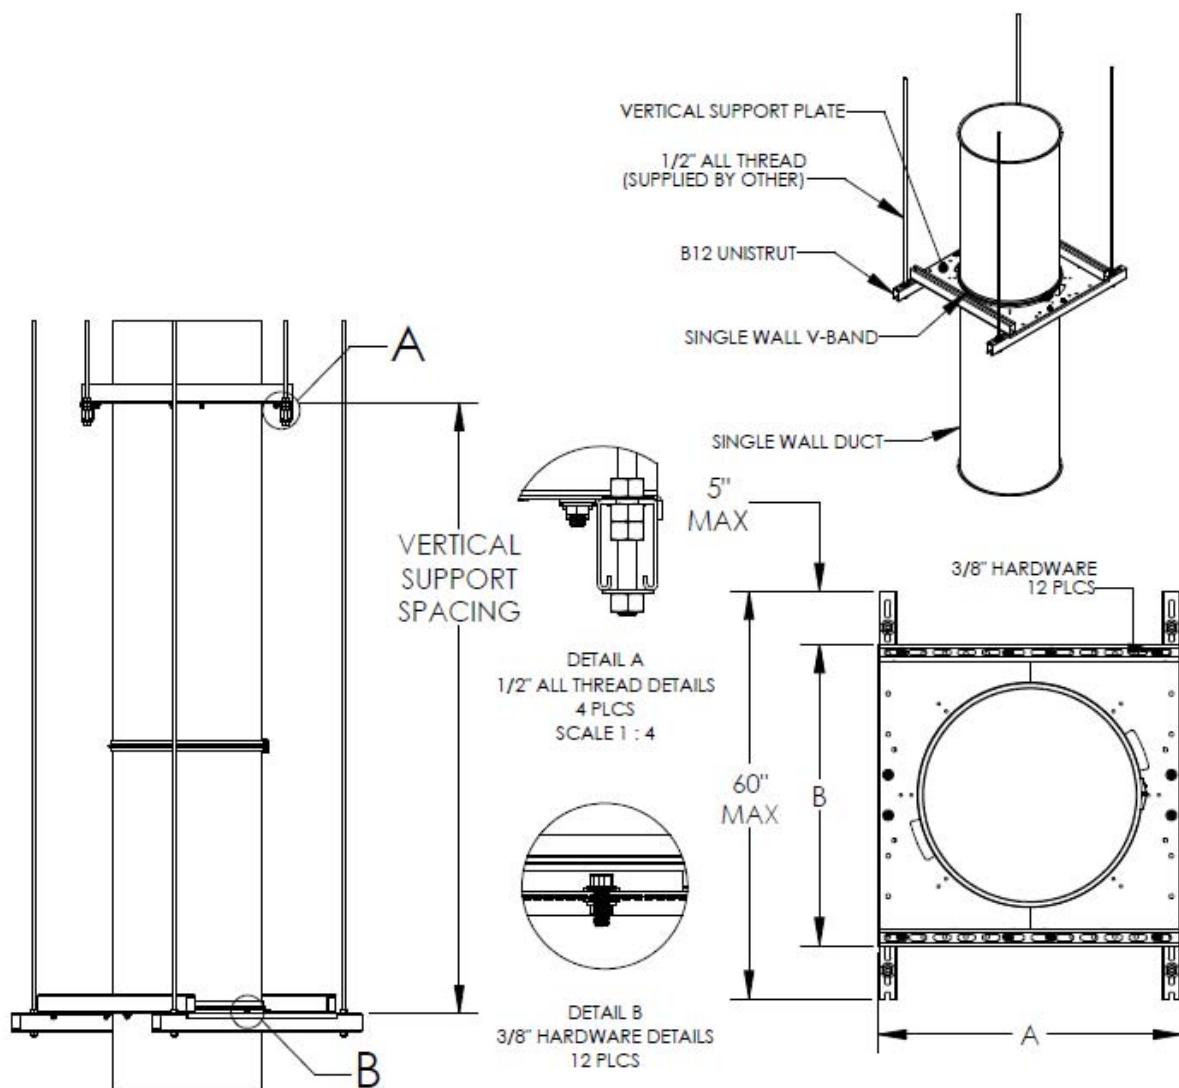

Figure 6. Ceiling Vertical Support Assembly
D. FLOOR/CEILING VERTICAL SUPPORT ASSEMBLY – Use the floor or ceiling support assembly (refer to Figures 6 and 7) supplied by the duct
hangars for ceiling support assembly as shown in Figure 6. Assemble the supports as shown in Figures 6 and 7 using supplied 3/8 in. hardware. Ensure the max. unsupported length of grease duct (Item 1) does not exceed the following requirements: